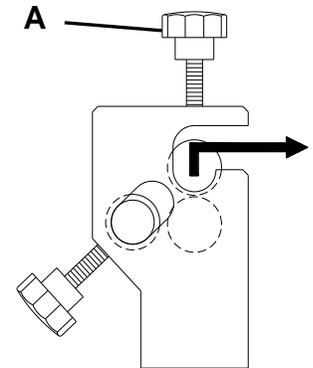

figure 4
1. To remove the finished piece part, turn both knobs (A) counterclockwise (ccw) as shown in (fig. 4).
4. Turn the knobs (A) clockwise (cw) and set up for the next piece.